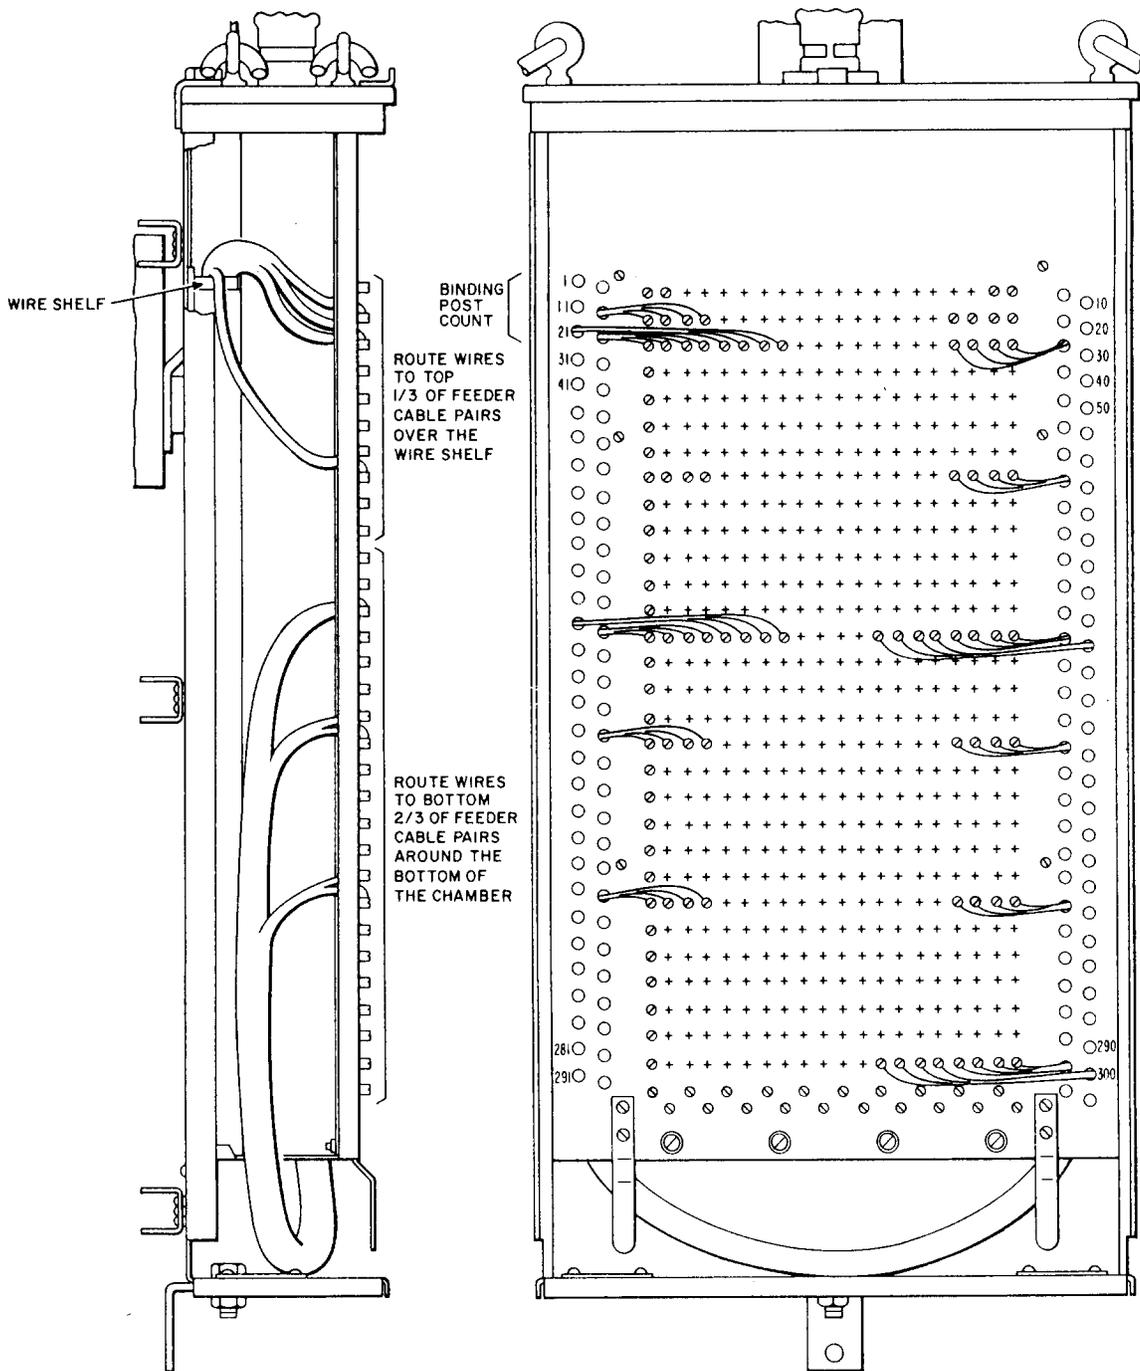

Fig. 19 - Running Cross-Connecting Wire
- (1) Insert one end of the wire through the proper wiring hole for the binding posts of distribution cable pair. For binding posts to the right of the wiring holes, select a hole immediately above the line of binding posts; for those to the left of the wiring holes, select a hole immediately below the line of binding posts. Select the inner of the two wiring holes of the 300-, 400-, and 600-pair terminals for wires to be terminated on the nearest two pairs of binding posts, and the outer hole for connections to the farthest binding posts.
- (2) Terminate the cross-connecting wire under the lower washers on the binding posts of a distribution cable pair. Connect the tracer conductor to the right-hand post.
- (3) When cross-connection is to be made on the same side of the chamber, run the wire in the wiring channel behind the faceplate extension and through the proper wiring hole for the binding posts of the cable pair.
- (4) When cross-connection is to be made between opposite sides of the chamber, process as follows:
- (a) In 100-, 200-, 300-, and 400-pair terminals equipped with wiring shelves, route cross-connecting wire terminating on the top third of the feeder cable pairs over the wiring shelf as illustrated by cross-connecting wires in Fig. 19. Run cross-connecting wire to the remaining feeder cable pairs around the bottom of the chamber behind the wire guards. In the case of the 600-pair terminal, route cross-connecting wires over any of the three wiring shelves in the back of the chamber or around the bottom of the chamber, whichever provides the shortest routing.
- (5) Allow about 2 inches of slack in each cross-connecting wire. Where, on a subsequent line change, a wire is found to be too short, run a new connection rather than splicing out the short one.
- (6) Where it is necessary to assign two distribution cable pairs to form a party line, cross-connect both distribution cable pairs to the feeder cable pair. Terminate one cross-connecting wire under the lower washer and the other wire between washers on binding posts of the feeder pairs. When more than two distribution cable pairs are required for bridging, cross-connect the first two distribution cable pairs to the feeder cable pair as previously outlined. The additional bridges are connected one to each of the associated distribution cable pairs. Terminate one wire under the lower washer and the other wire between washers on the binding posts of the distribution pair.